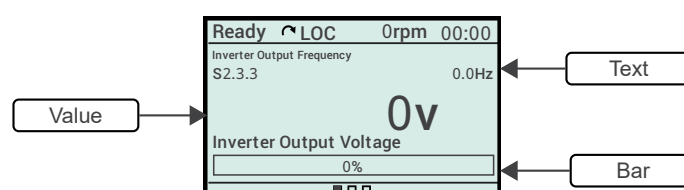

Figure 8.12: Line view
- **Line:** It is possible to display a reading variable in the format **text, value or bar**. Figure 8.12 on page 8-5 presents an example with the 3 formats.